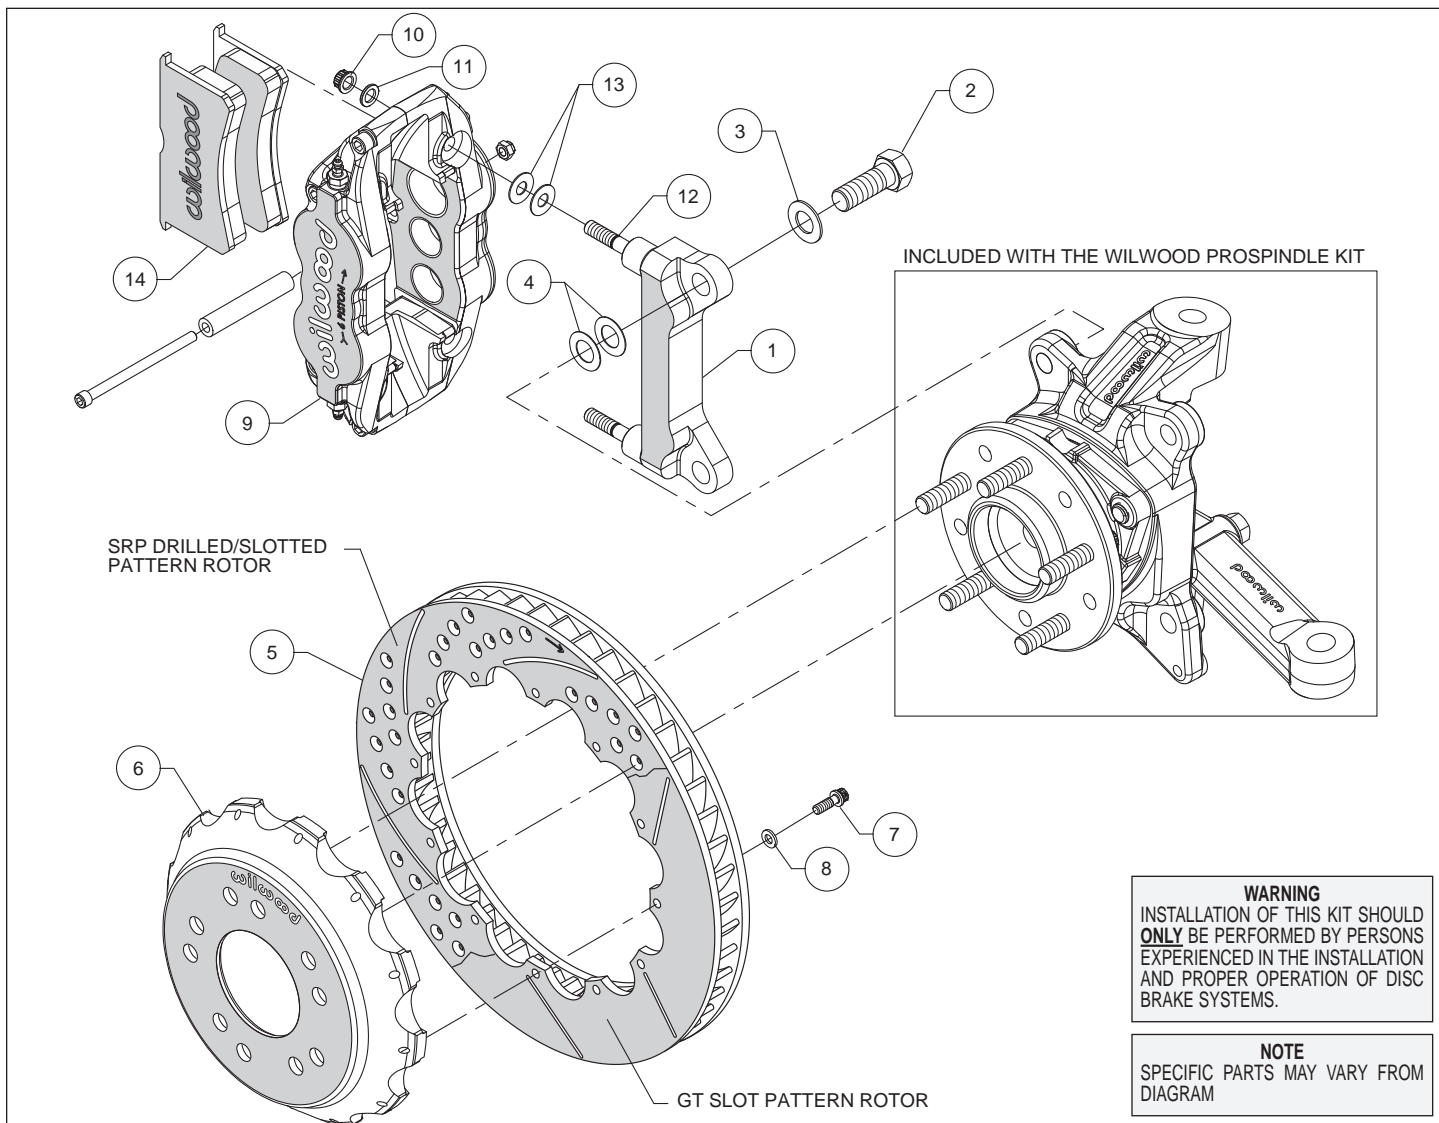
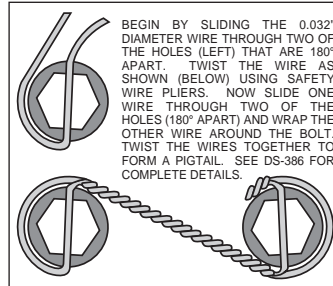

Figure 1. Typical Installation Configuration
Figure 3. Safety Wire Diagram
Assembly Instructions (numbers in parenthesis refer to the parts list and Figure 1 on the preceding pages):
- The caliper mount bracket (1) should initially be installed with clean, dry threads on the mounting bolts. Orient the bracket as shown in Figure 1 and Photo 1 and install using mount bolts (2) and washers (3). Initially place two .024" thick shims (4) on each bolt between the bracket and spindle, Figure 1. Temporarily tighten the mounting bolts. **NOTE:** The bracket must fit squarely against the mounting points on the spindle. Inspect for interference from casting irregularities, machining ridges, burrs, etc. Later, after the caliper alignment has been checked, the mount bolts will be secured using red Loctite® 271.
- Orient the rotor (5) and the hat (6) as shown in Figure 1 and Photo 2. Attach rotor to hat using bolts (7) and washers (8). Using an alternating sequence, apply red *Loctite*[®] 271 to the threads, and torque to 155 **in-lbs**. For an added measure of security, the bolts may be safety wired using standard 0.032 inch diameter stainless steel safety wire as shown in Figure 3. Please refer to Wilwood's data sheet DS-386 for complete safety wire installation instructions.
- **NOTE:** *This kit contains distinct right and left hand calipers that must be mounted in a specific direction, as described below.* Lubricate the caliper mounting studs (12) with lightweight oil. Initially place two .035" thick shims (13) on each stud between the caliper and the bracket, as shown in Figure 1 and Photo 5. Mount the caliper (9) onto the bracket (1) using lock nuts (10) and washers (11), Figure 1. Ensure that the caliper is mounted so the largest pistons are at the rotor exit end of the caliper, in relation to the direction of rotor rotation. Temporarily tighten the lock nuts and view the rotor through the top opening of the caliper. The rotor should be centered in the caliper, Photo 6. If not, adjust by adding or subtracting shims (4) between the bracket and the spindle. Always use the same amount of shims on each of the two mounting bolts. Once the caliper alignment is correct, remove the bracket mounting bolts one at a time, apply red *Loctite*[®] 271 to the threads, and torque to 140 ft-lb.